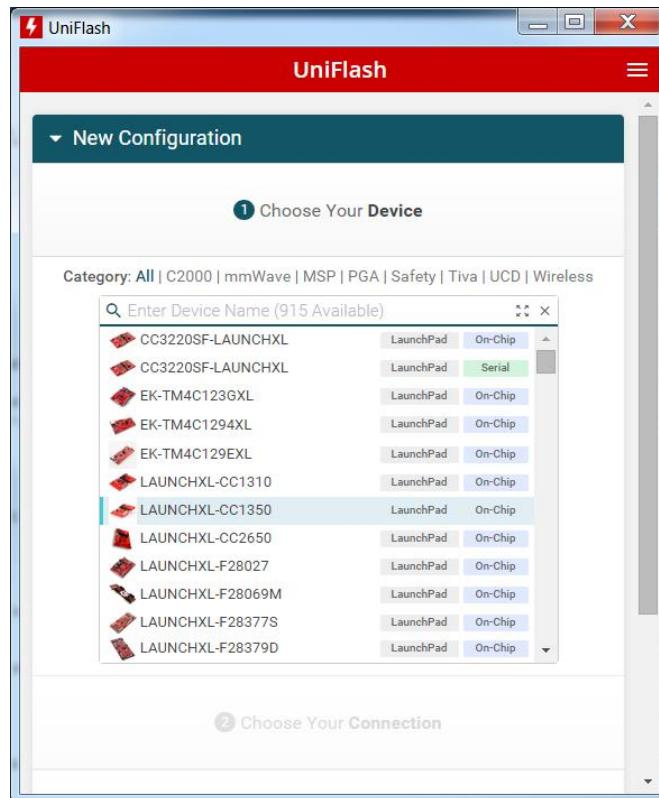

図 4. Choose Device: UniFlash
4. Select LAUNCHXL-CC1350 as show in 図 4, and click on the *Start* button.